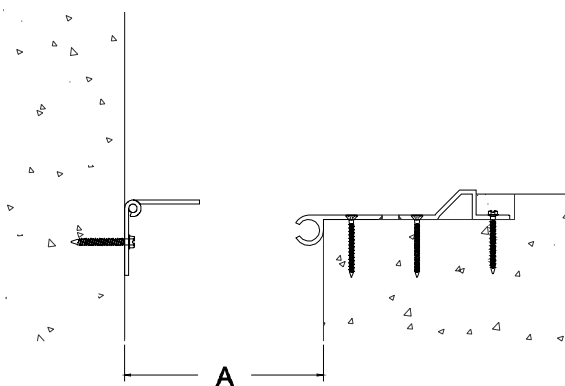

Figure 8
STEP 10. Place grout (by others) continuously between the base member and the blockout (see Figure 8). Install the grout in accordance with the grout manufacturer's written instructions. Ensure that the grout is level with the surface of the concrete. Remove all excess grout from the exposed surfaces of the aluminum base members before the grout sets up.